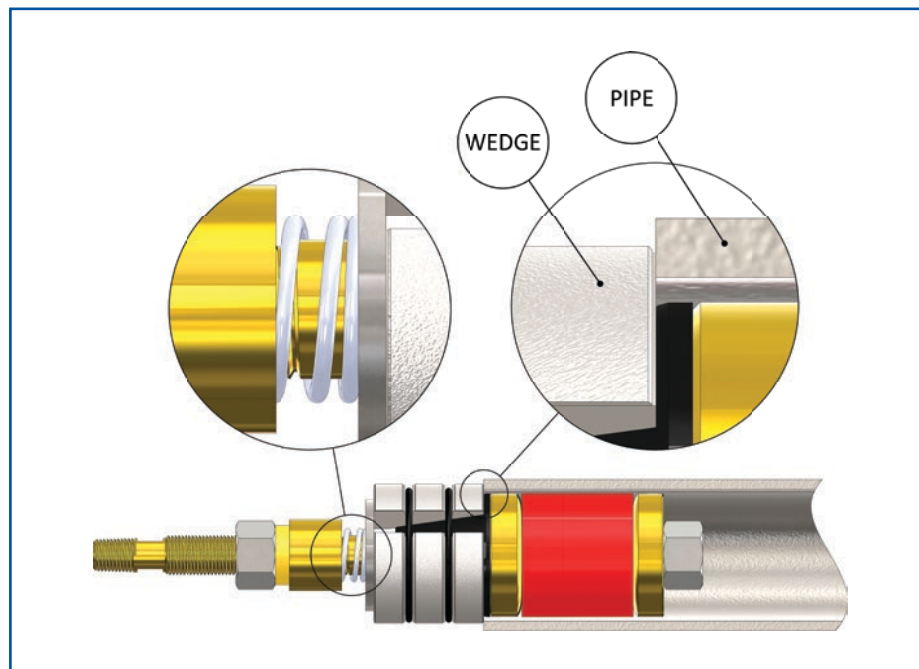

Figure 3: Immediate Gripping Upon Insertion
- Expand the *Wedge Grippers* ⑤ to the end of the *Wedge Cone* ⑥ by advancing the *Compression Hex Nut* ② (see **Figure 3**). At this point, the *Wedge Grippers* ⑤ expanded outside diameter will be larger than the ID of the pipe.
- Slowly push the plug into the pipe; the *Compression Spring* (12) (see **Figure 3**) will compress into the *Spring Cup* (3) and will allow the *Wedge Grippers* (5) to retract forward, decreasing its expanded outside diameter until they match the ID of the pipe.
- Once the *Wedge Grippers* (5) contact the ID of the pipe they will automatically grip; removal of the plug at this point is not possible. See **Section 8** for plug removal if necessary.
- Insert plug to the desired depth. The *Wedge Gripper Washer* (4) must be inserted flush with the pipe or fitting face at a minimum.